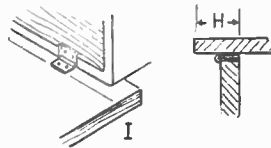

Fig. 4
Hinges for boxes can, in many cases, be fitted as detailed above, but an exception must be made when the lid overhangs the box, as is the case with certain designs of fancy fretwood boxes for example. In such instances, the hinges are completely recessed in the top edge of the box first. Then, take measurement (H) in Fig. 4, that from the edge of the hinges to the knuckle and overlap of the lid. A pencil line to this measurement is drawn along the inside of the lid, as shown at (I), then the box laid on its side with the free leaves of the hinges opened out and touching the pencil guide line. In this position they are screwed or nailed to the lid. (497)
Make vee cuts as in Fig. 4 with a sharp knife and file and glasspaper to final shape, as in Fig. 5, afterwards cutting off each stanchion with a small model saw.